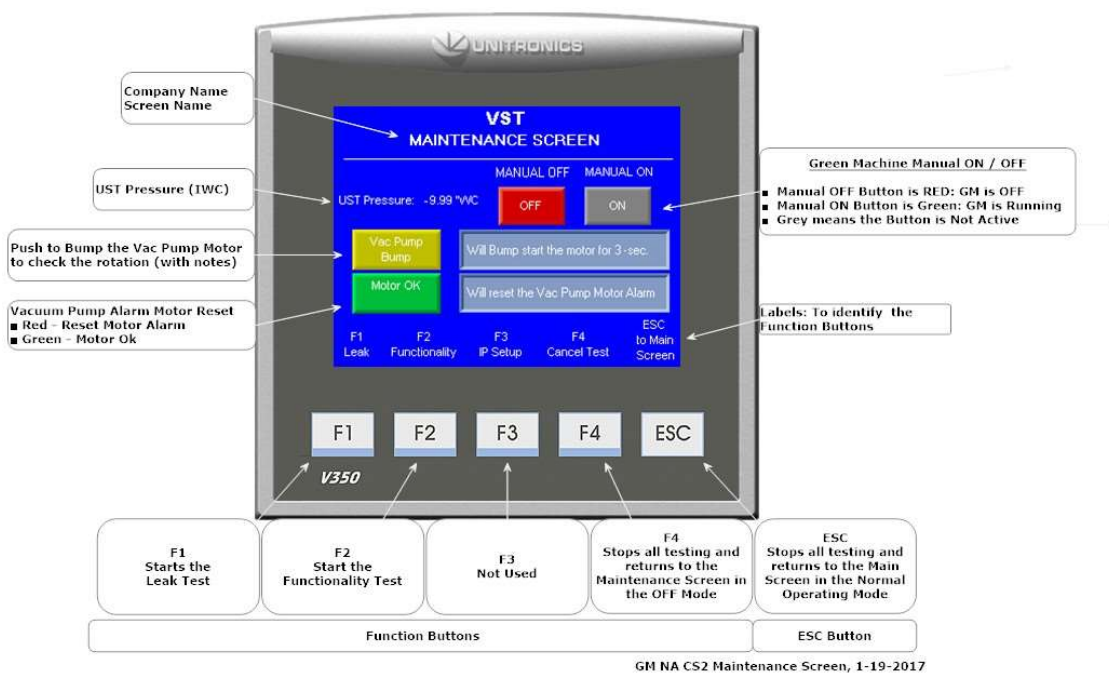

Figure 10-2: Maintenance Screen
3. ON the Maintenance Screen (**See Figure 10-2**), the “Reset Motor Alarm” button will be RED. Push the “Reset Motor Alarm” button to reset the Vacuum Pump Motor alarm.